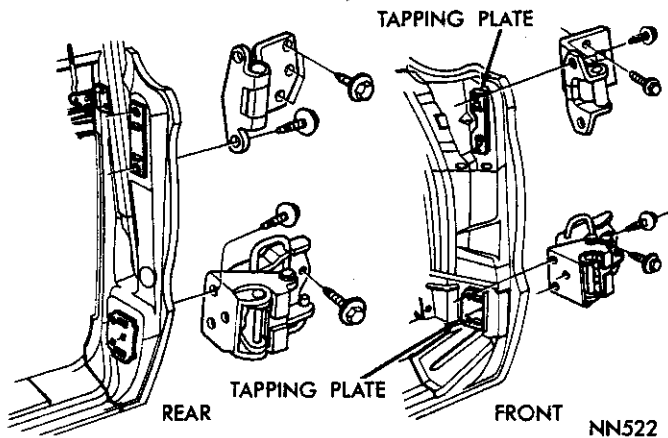

Fig. 15—Door Hinges
Adjustment of the door can be made at either the pillar or door hinge halves (Fig. 15).
- (4) Loosen the necessary hinge bolts to suit each door as follows: (Fig. 15).
- (c) For front door upper and lower hinge (door half) (2) upper and (3) lower bolts.
- (5) Readjust and fit doors to door openings for alignment of contour lines and belt surfaces.
- (6) Secure previously loosened hinge bolts (Fig. 15).
- (7) Readjust door latch striker.